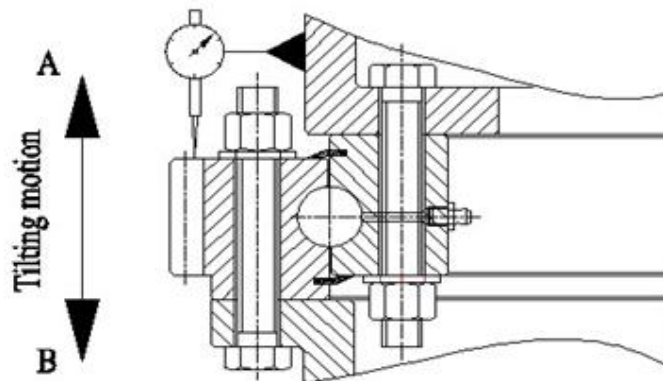

Figure 6. Tilting Clearance Measurements
- Attach the dial gauge as shown in Figure 6.